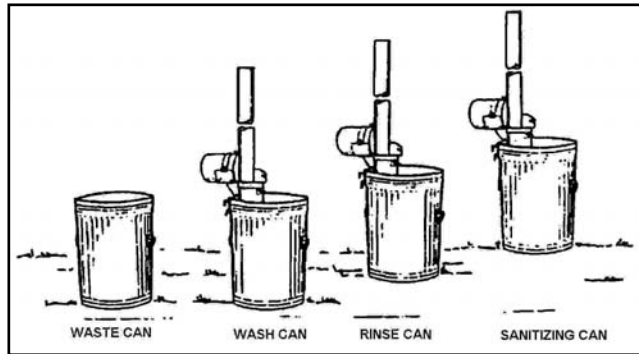

Figure 3-41. Mess Kit Laundry
- b. Ensure soldiers use the mess kit laundry line properly (see Figure 3-41).
- (1) Scrape food scraps into the first can (waste can).
- (2) Wash utensils or mess kit in the second can (wash can).
- (3) Pre-rinse the utensils or mess kit in a can of boiling water (rinse can).
- (4) Rinse them in a second can of boiling water (sanitizing can).